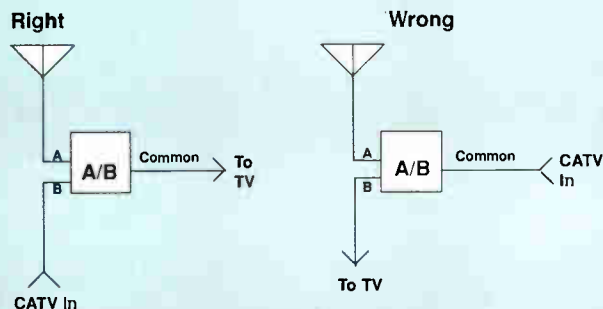

Figure 2
- A/B switches. Incorrectly installed or poorly isolated A/B switches can route all or part of the cable drop's signal to the subscriber's antenna, creating a directional "super leak" (Figure 2).